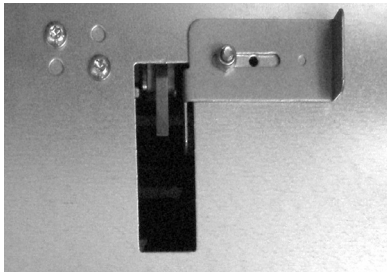

Fig. 6: Upper cover plate in original position
2. Loosen the screw on the top cover plate in front of the recess. Tighten the screw again (Fig. 6 and 7, page 14).